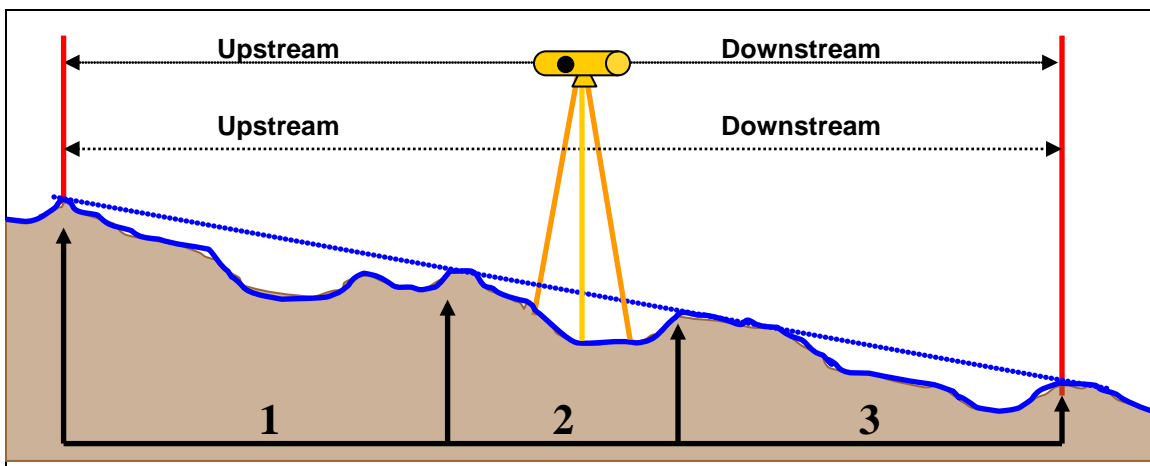

Figure 10 – Measuring slope
- **Note:** Ideally the distance between the two readings would include at least two riffle pool sequences (Figure 10). If this cannot be achieved from the location on the bank where the level is set to read the cross section (e.g. brush obscures line of sight, creek bends, etc.), wait until you've completed surveying the cross section then move the level to a location that allows a better view both up and downstream - this may be in the channel itself rather than on the banks (**Option 2**).
- Locate the furthest riffle upstream of the cross section that is within your line of sight. Measure, along the centerline of the bankfull channel\*, the distance from the cross section to the beginning of that riffle (Figure 10). This is your **Upstream Distance** — record it on the data sheet.
- At the beginning of the riffle, have one person hold the stadia rod right on top of the water's surface (use a rock or the toe of your boot to set it at this level), while the other person takes a reading of the stadia rod with the level (Figure 10). This is your **Upstream Reading** — record it on the data sheet.
- Similarly, locate the furthest riffle downstream of the cross section that is within your line of sight, and repeat the same steps to measure your **Downstream Distance** and **Downstream Reading** (Figure 10) — record those on the data sheet.